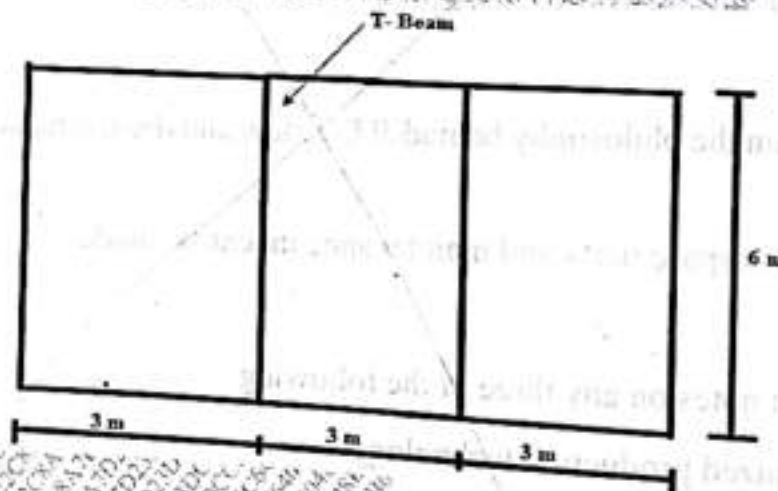

Figure 1
- a) Explain limit state method (04)
- b) Design under reinforced section to resist factored BM of 125 KNm having width 250 mm using M₂₀ and Fe 250 using Limit state Method (LSM). (08)
- a) Draw and explain stress strain diagram for singly reinforced rectangular section (04)
Design intermediate beam (T- Beam) for the slab beam system given below (Figure 1) by IS Code method (Limit State Method) using M₁₅ and Fe 415. (08)